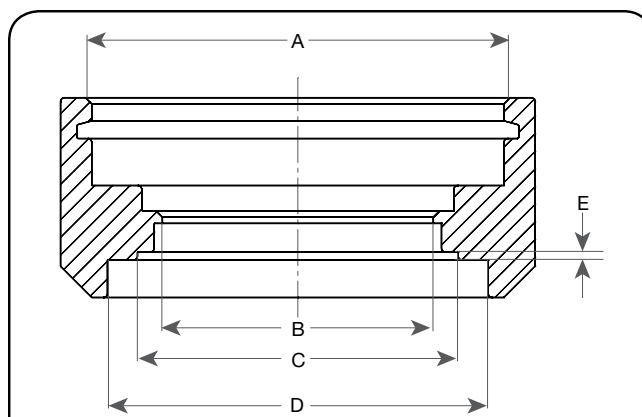

Figure 21: Ring Holder Critical Dimensions
2. Reinstall the adjusting ring to the nozzle. Make sure the ring is low enough on the nozzle to allow sufficient clearance between the disc holder and the adjusting ring so that the disc will seat on the nozzle and not on the ring (see Figure 21 & Table 5).